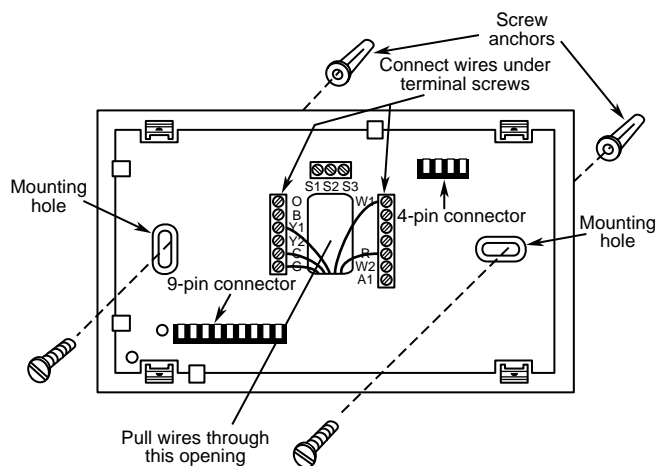

Figure 3. Subbase
2. Connect wires beneath terminal screws on subbase using wiring schematic for your particular application (see figs. 3 through 6).
5. Fasten subbase loosely to wall, as shown in fig. 3, using two mounting screws. Place a level against bottom of subbase, adjust until level, and then tighten screws. (Leveling is for appearance only and will not